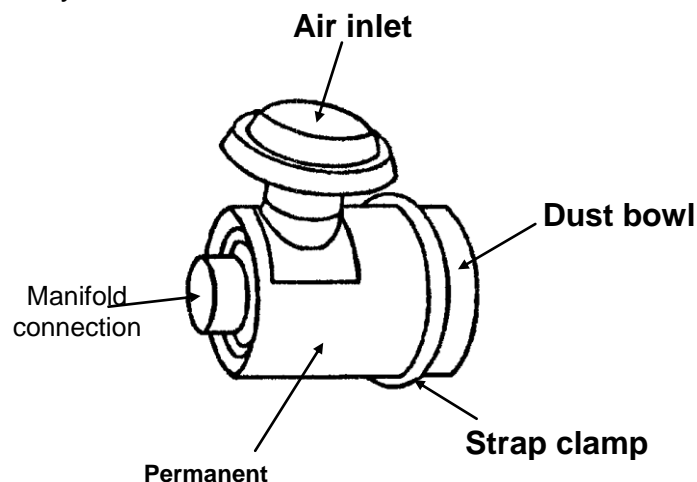

Fig. 23
- Fig. 23 shows a fully assembled heavy duty air cleaner.